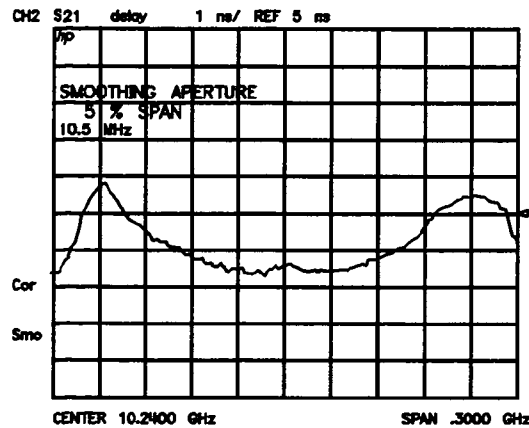

Figure 5-12. Group Delay Format
**DELAY** (DELA) selects the group delay format, with marker values given in seconds. Figure 5-12 shows the bandpass filter response formatted as group delay. Group delay principles are described in the next few pages.